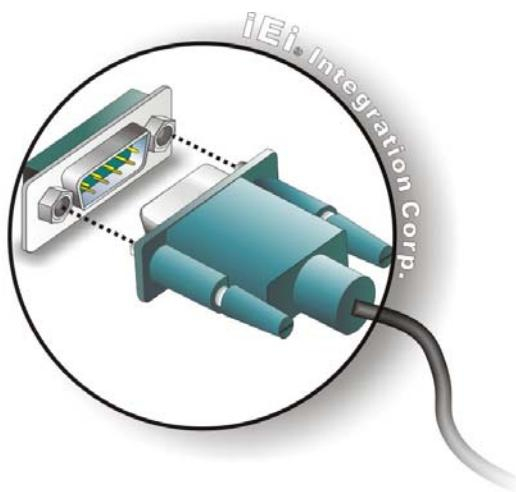

Figure 4-11: Serial Device Connector
Step 2: Insert the serial connector. Insert the D-sub 9 connector of a serial device into the D-sub 9 connector on the external peripheral interface. See Figure 4-11.